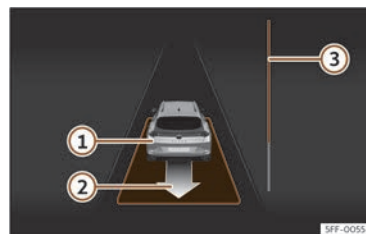

Fig. 153 On the instrument panel display: driving off from perpendicular parking.
- Reverse until the continuous ParkPilot signal sounds; **OR:** reverse until the instrument panel display shows the forward indication. The progress bar >>> **Fig. 153**  indicates the distance to cover.